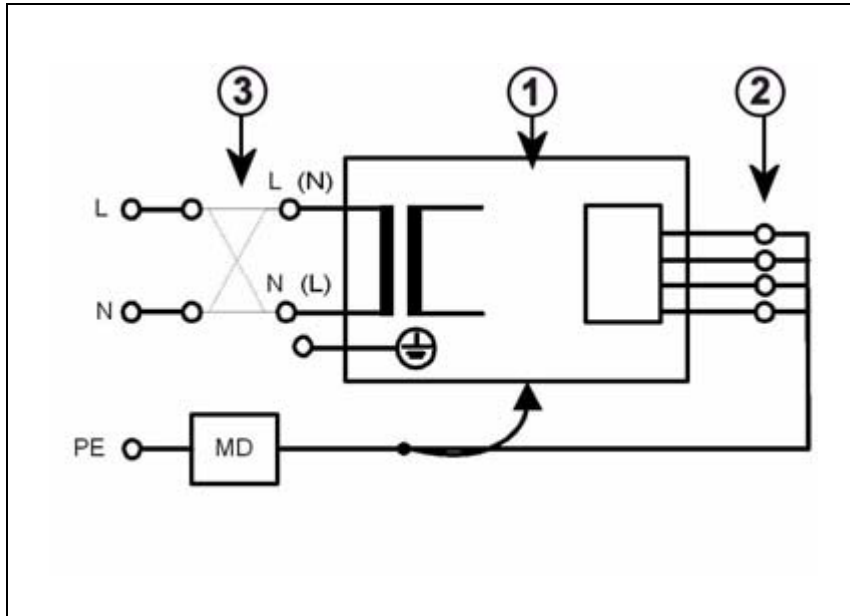

Fig. 5: Measuring circuit for direct measurement of the leakage current in compliance with DIN VDE 0751-1/2001-10, Fig. C5 for protection class I.
If direct measurement of the device leakage current is used (measuring setup according to (Fig. 5 / p. 16)), the system must be installed in an insulated way and must not be touched during measurement.
- ⇒ **When measuring device leakage current directly, during measurement, no housing parts of the unit must be touched (Fig. 5 / p. 16).**